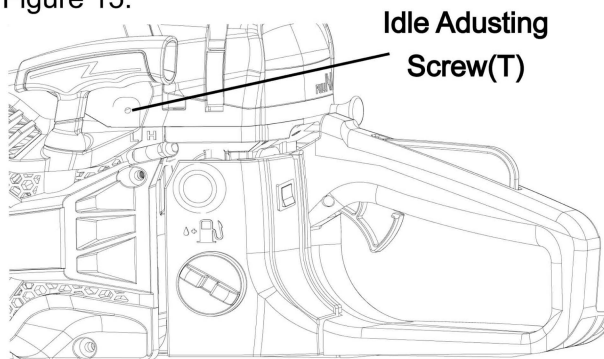

Figure 15: Idle Adjusting Screw
2. Start the Engine as detailed in Starting the Engine on page 13. If necessary, adjust Engine idle speed so Saw Chain does not rotate at idle. To adjust, turn the Idle Adjusting Screw (T) counterclockwise to lower idle speed until Chain does not turn. Refer to Figure 15.